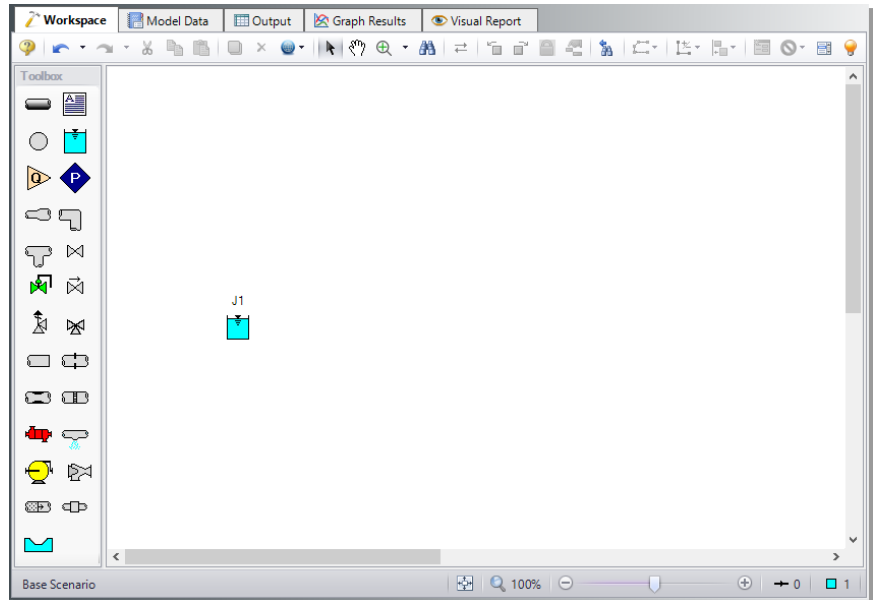

Figure 2.4 Pump Sizing model with the first junction placed
- **To start, drag a Reservoir junction from the Toolbox** and drop it on the Workspace. Figure 2.4 shows the Workspace with one reservoir.